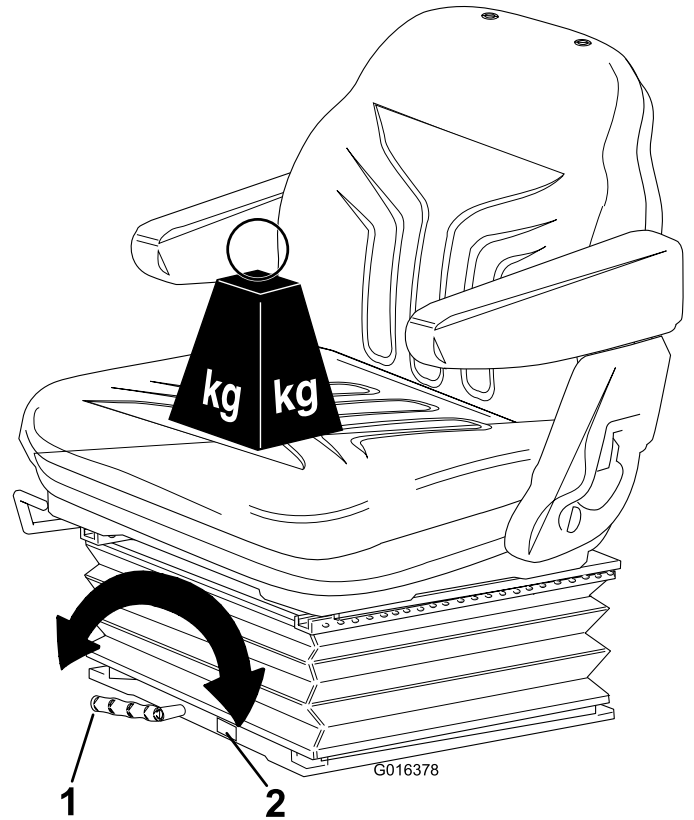

Figure 12
- **Operator weight adjustment:** Rotate the handle clockwise to increase suspension stiffness and counterclockwise to decrease the stiffness. The dial indicates when the optimum suspension adjustment has been set according to operator weight (kg); refer to Figure 12.